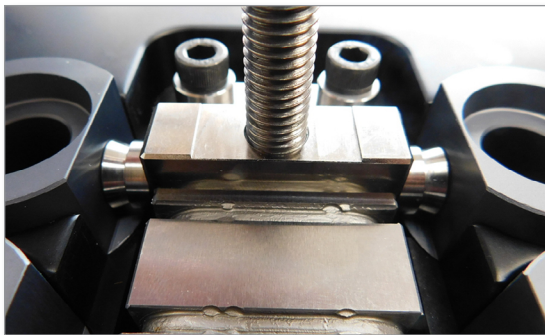
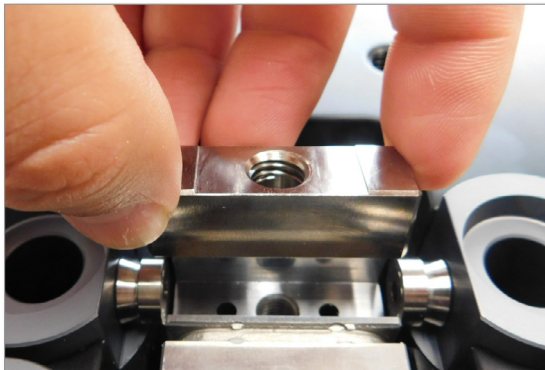

Figure 5-102 Install with an M10 lifting bolt
Figure 5-103 Install by hand
1. Install the melt block assembly with an M10 lifting bolt or by hand. See Figure 5-102 and Figure 5-103.